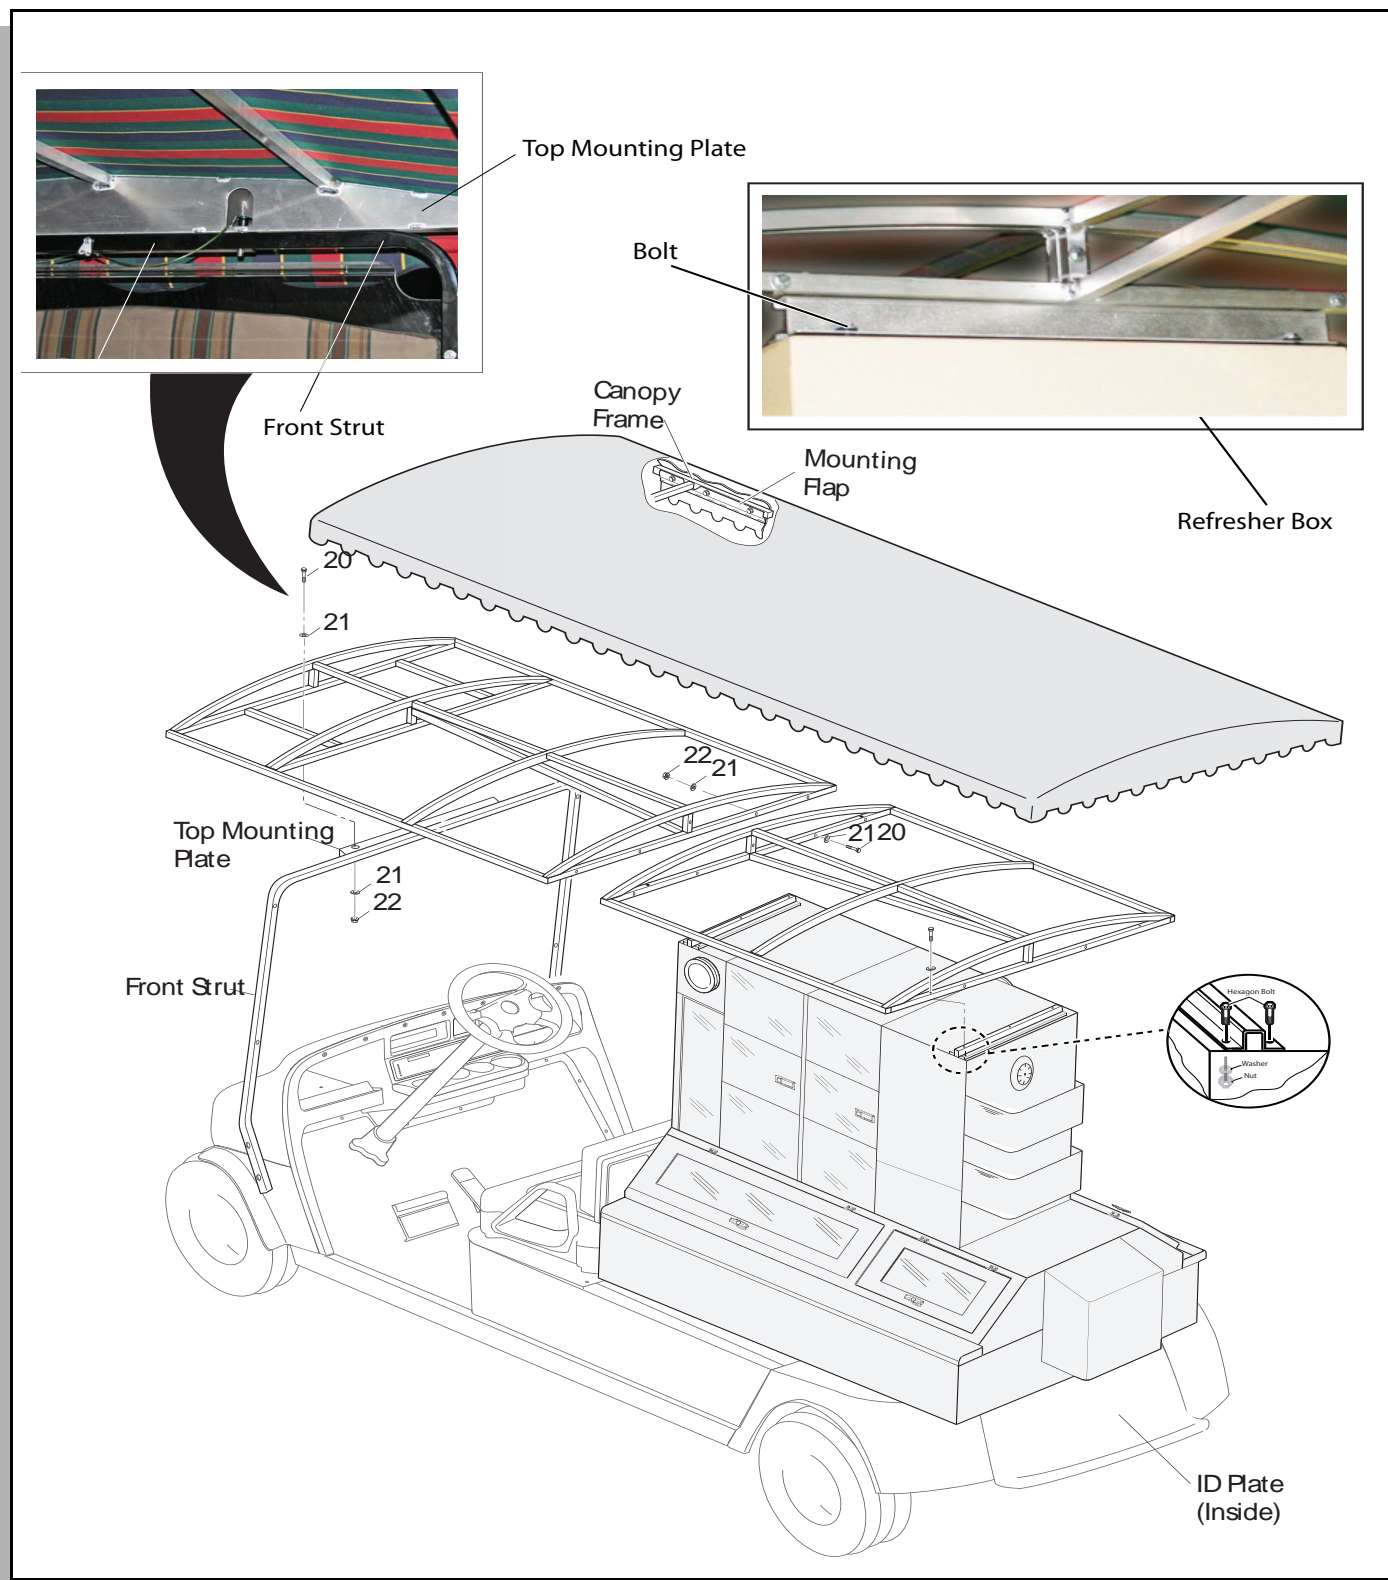

Fig. 3 Canopy Installation
Orient the two canopy frame sections end to end aligning five existing mounting holes as shown (Ref Fig. 3 on page 4) and fasten together with 2 1/4 - 20 X 2" bolts (item 14), 4 1/4" flat washers (item 15) . Orient the assembled canopy frame as shown and rest front of frame on top mounting plate and rear of frame on refreshment unit .Secure canopy frame to refreshment unit with two 1/4 - 20 X 1 1/4" bolts , four 1/4" flat washers and two 1/4 - 20 lock as shown.
- 1.Wipe the Connecting frame and Mount the frame as shown in the fig.3.
- 2.Use four 5/16 - 18 X 1 1/4" bolts and 1/4" flat washers for linking refresherunit and Connecting frame as shown in fig 3.
Wipe canopy frame with a clean cloth. Unfold canopy and locate clearance openings in the mounting flap. Drape canopy over frame and orient canopy on frame so that clearance openings match strut attachment points and canopy frame juncture (Ref Fig. 3 on page 4). With the aid of assistants, pull canopy taut over canopy frame. Fold mounting flap up inside canopy frame as shown. Secure each mounting flap to inner surface of canopy frame with #10 X 1/2" self tapping screws (item 35) evenly spaced approximately 9" apart as shown. To pre-